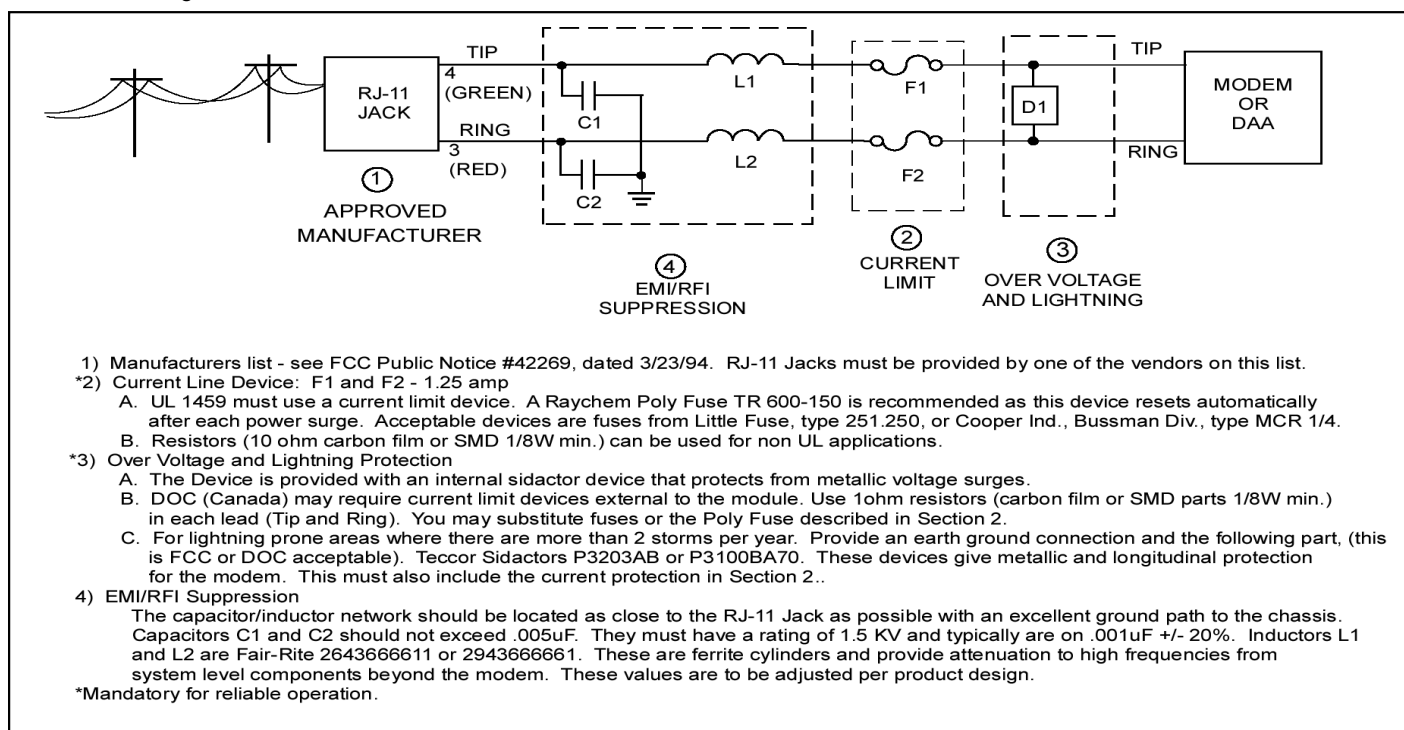

Figure 4. Telephone Line Interfaces
10) The CH1840 DAA meets or exceeds the hazardous voltage, surge and leakage requirements of the FCC. For applications that connect to Canadian phone lines, governed by the DOC (Department of Communications) and to further protect the CH1840 from field failure due to poor lines, a higher level of transient protection is required, thereby making mandatory the circuit consisting of two fuses and one varistor as shown in Figure 4. Adding these three devices will not affect FCC or U.L. registration.